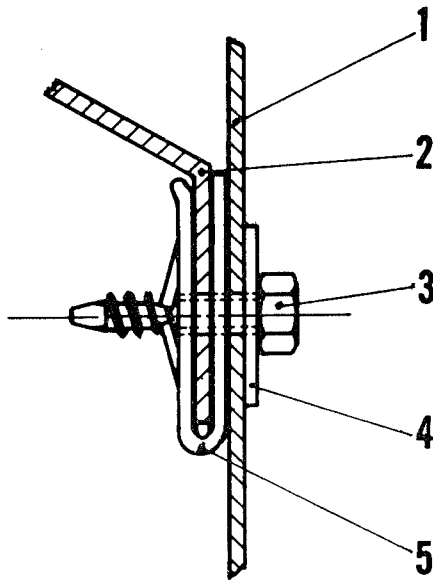

Fig. 6
8. Remove both plastic plugs from the front compartment transverse panel and fasten the angular heater support with both speed nuts; place bolts and washers from outside (see Fig. 6 and 7).